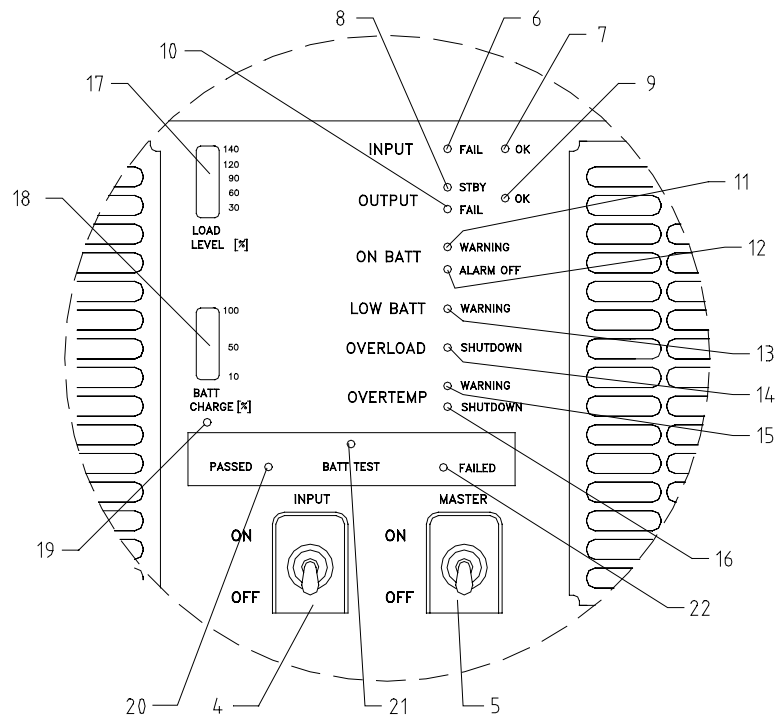

Figure 5 - Front Panel: Indicators and Switches
2. Visual Indicators and Switches (for detailed view see Figure 5).
4.2 Front Panel: Indicators and Switches (See Figure 5)